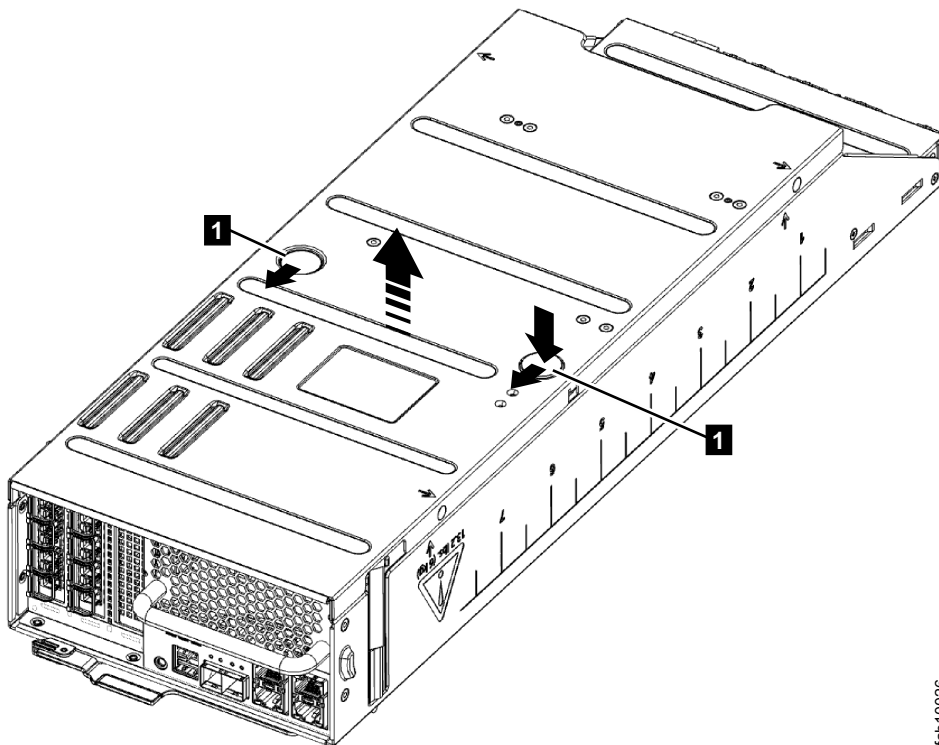

Figure 68. Replacing the canister cover
2. Open the cover of the canister by depressing the recessed, blue touch points on the lid and sliding the lid away from you, as shown in Figure 68.